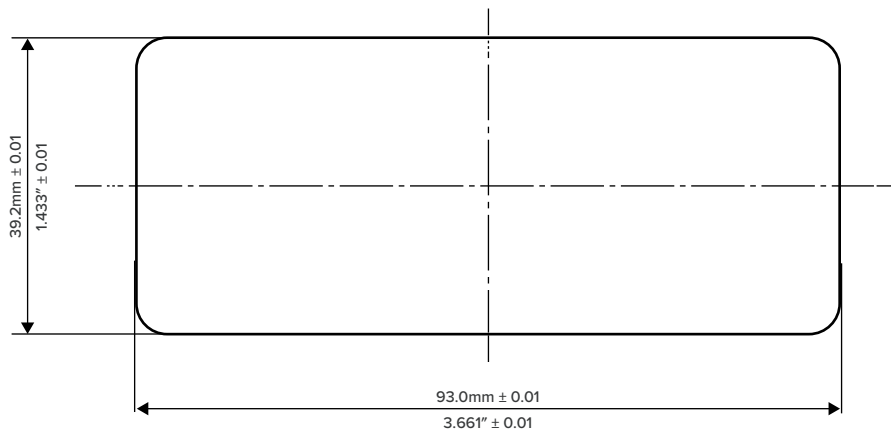

Fig. 7: Dimensions for the milled cut-out, TOUCHinlay-KM
1. Use a milling cutter or similar to mill the cut-out. The dimensions for the milled cut-out are shown in Chapter 5.2.4 (Fig. 7).